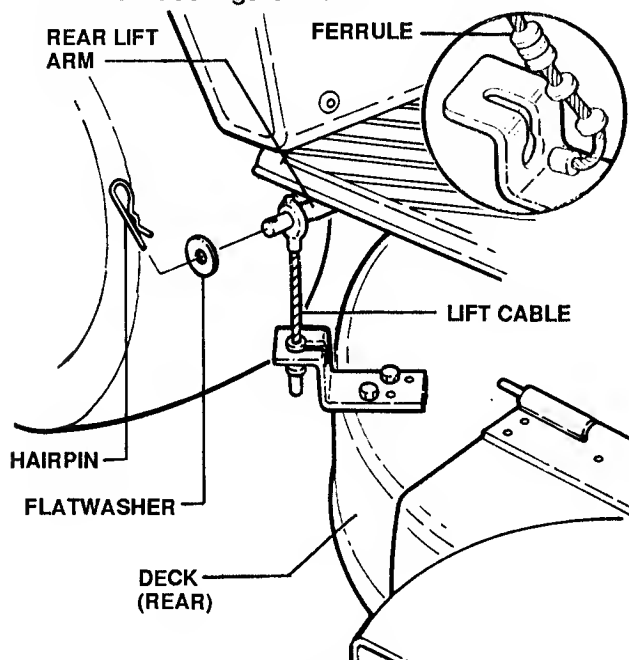

FIGURE 27
3. Remove hairpins and washers from REAR LIFT CABLES. See Figure 27.